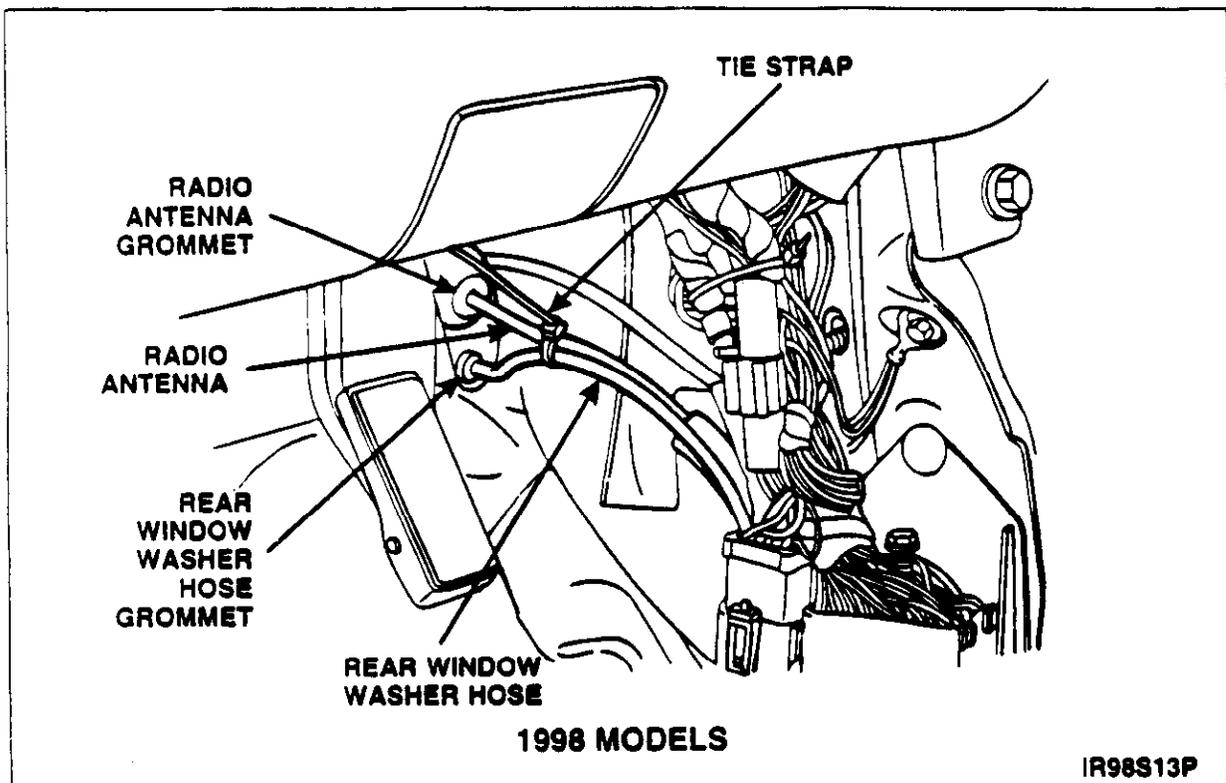

FIGURE 21
- Using tie strap, secure rear window washer hose to radio antenna. See Figure 21. Make sure grommets are not pulled out of dash panel.